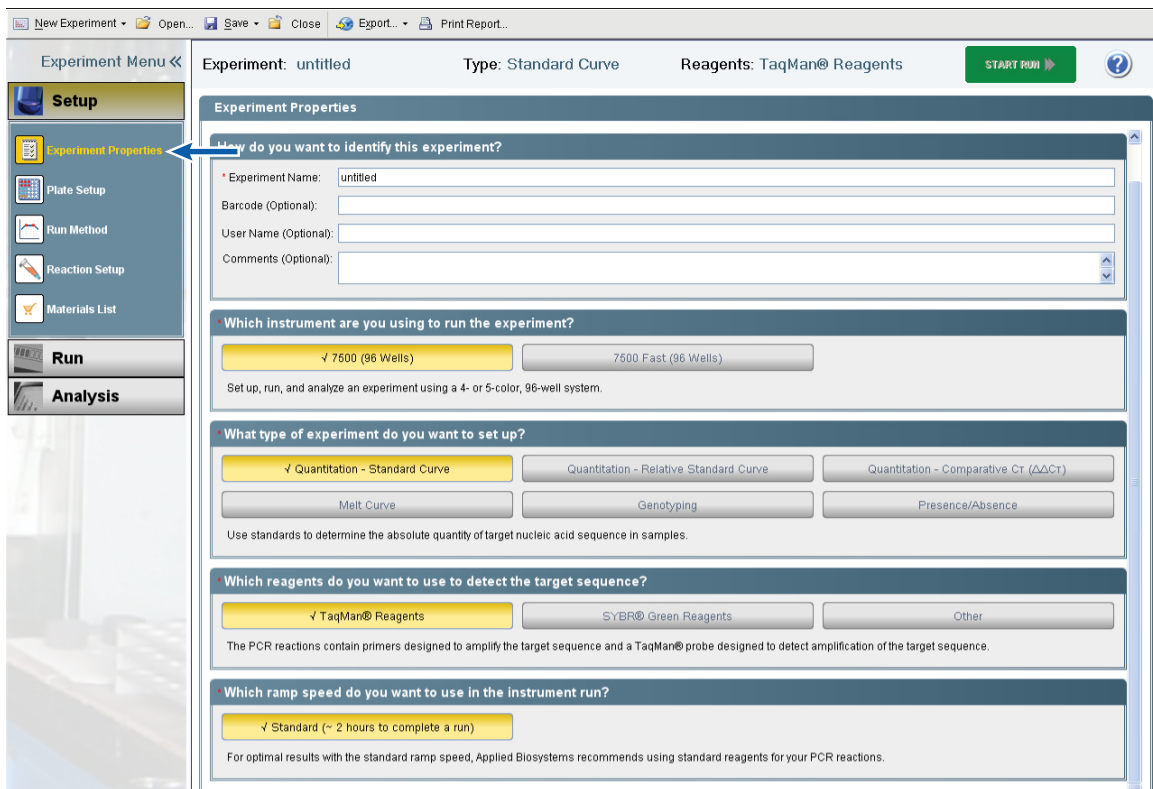

Figure 14. The Experiment Properties screen.
6. In the Experiment Properties form (Figure 14), specify the following parameters: